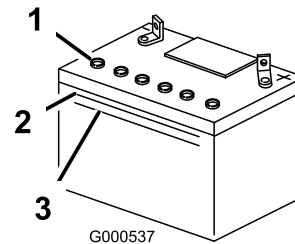

Figure 31
1. Look at the side of the battery. The electrolyte must be at the upper line (Figure 31).
Do not allow the electrolyte to fall below the lower line (Figure 31).
3. Remove the vent caps from the battery (Figure 31).
4. Slowly pour distilled water into each battery cell until the electrolyte level is up to the upper line (Figure 31) on the battery case.
6. Add distilled water, if necessary, until the electrolyte level is up to the upper line (Figure 31) on the battery case.